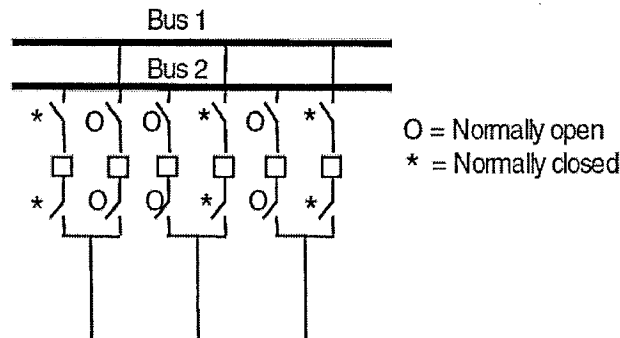

Fig. 4
- b) Design the bus protection for the system shown in Fig. 4. Show the location of the primary CTs and draw the three-phase secondary wiring of the two bus differentials. Discuss the relay applications involved.